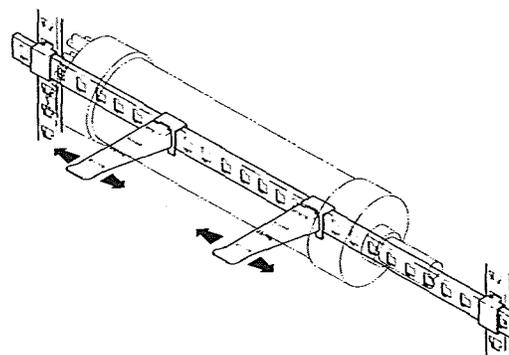

Figure 20. Supporting Closure
(4) Position closure on hook as shown in Figure 20.